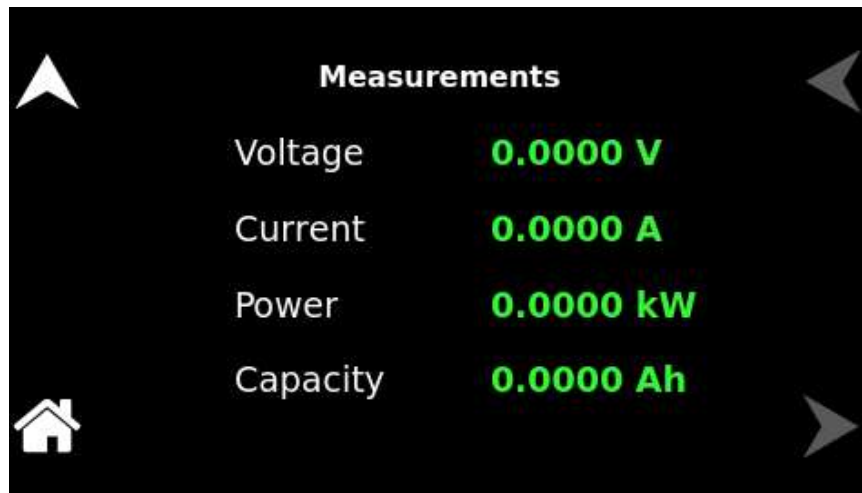

*Figure 13-13. Measurement Screen*
- g) **Monitoring and Adjustments:** Monitor the output and make any necessary adjustments to the settings, using the built-in measurement screen to track the performance and ensure safety limits are not exceeded. Refer to Figure 13-13.
The Measurements screen displays the floating-point values for Output ‘Voltage’, Output ‘Current’, Output ‘Power’ and Calculated ‘Capacity’. For the Measurement screen refer to Figure 13-13 and for instructions on how to navigate to the Measurements screen, refer to Section 7.4.2.1.